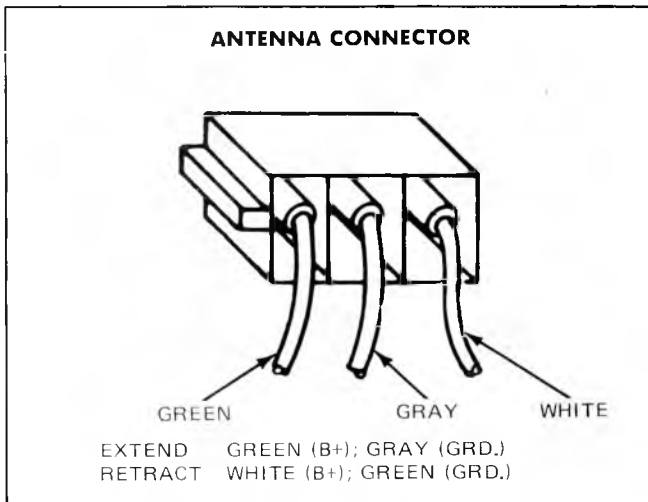

Fig. 9-15R--Bench Connections
2. Connect power source (12V) to antenna wires to run cable into the gear box (fig. 9-15R).
3. Using the scribe marks made in Step 1 under "Removal", assemble the support tube on the gear box in the same position as the original and install the two (2) retaining screws. Torque the screws to 1.6-2.4 N·m (14-21 in.lbs).
- If mast doesn't fully extend, operate system to retract the mast. When mast is fully retracted, allow motor to continue running until the internal limit switch in the motor gear box shuts the motor off. Then recheck complete operation. Refer to Figure 9-15R for bench operation procedure.